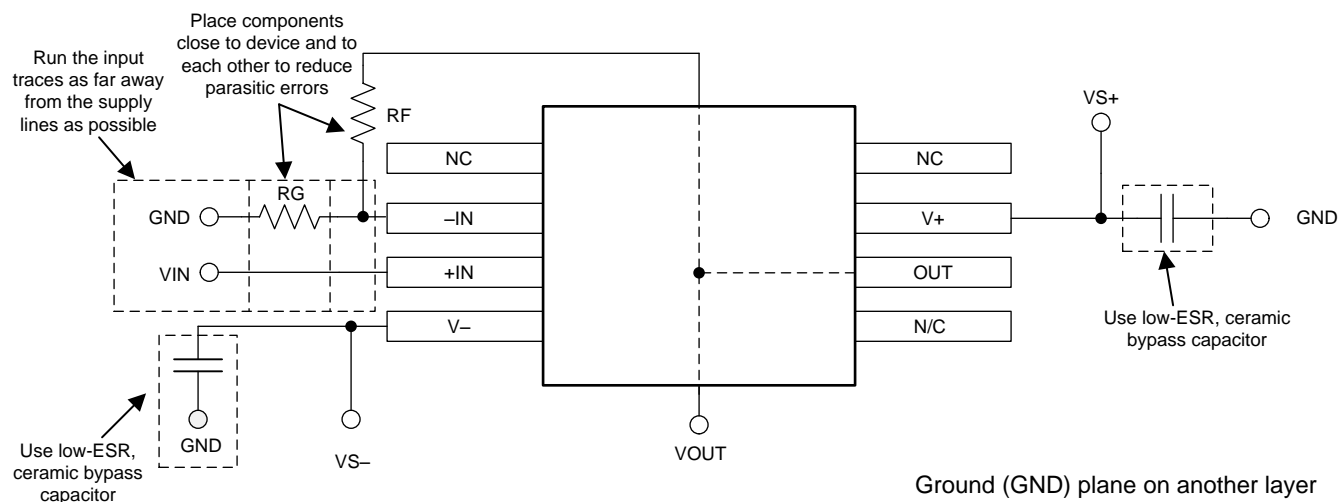

Figure 32. Layout Example
- Place the external components as close to the device as possible. As illustrated in Figure 32, keeping RF and RG close to the inverting input minimizes parasitic capacitance.